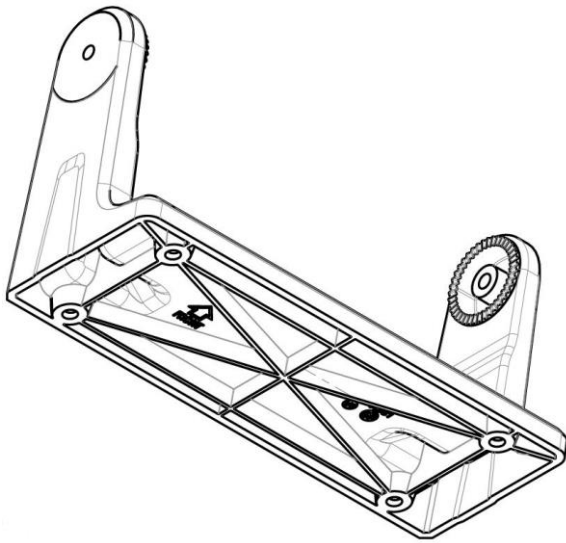
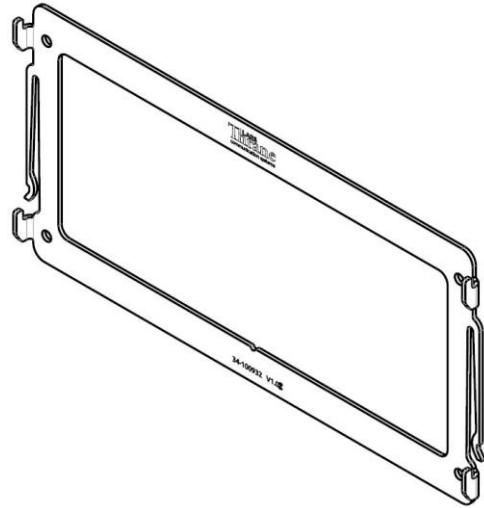

Figure 4: Bracket Mount, Control Unit.
Figure 5: Flush Mount, Control Unit.
**NOTE:** The LT-4210 Control Unit must be mounted with either the Bracket Mount, Control Unit (P/N: 91-100771) or Flush Mount, Control Unit (P/N: 91-100772) - illustrated in Figure 4 and Figure 5. The Flush Mount, Control Unit is not included in the LT-4200 Satellite Communications System - Basic (P/N: 90-102656) and must be ordered separately.
The Bracket Mount and Flush Mount for the LT-4210 Control Unit are illustrated in Figure 4 and Figure 5.